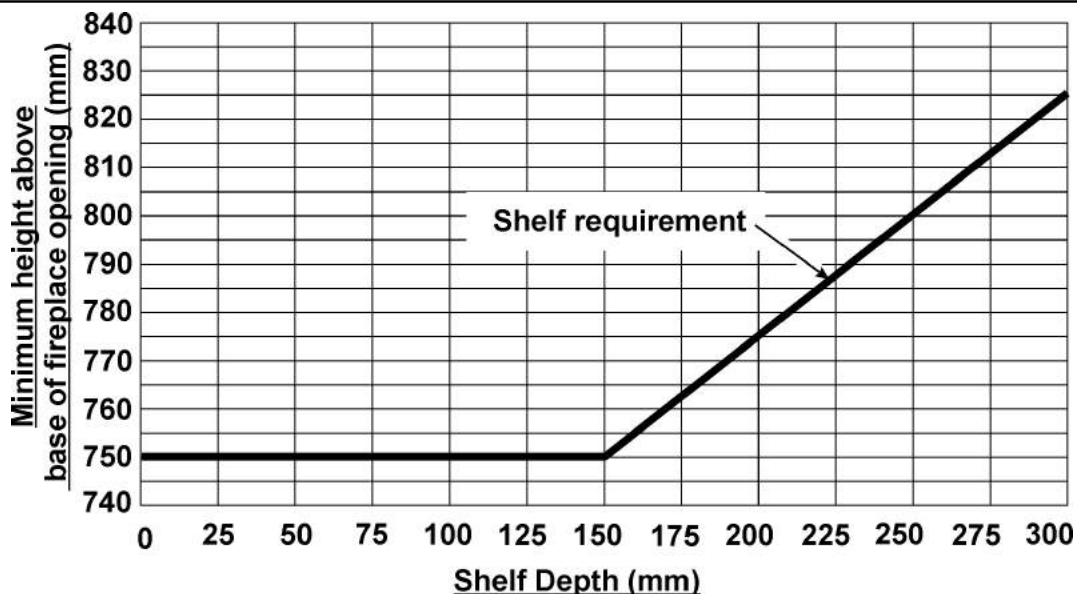

Figure 1. Combustible shelf clearances
- *For a shelf deeper than 150mm: 750mm + 12.5mm for every 25mm depth over 150mm (See figure 1).*